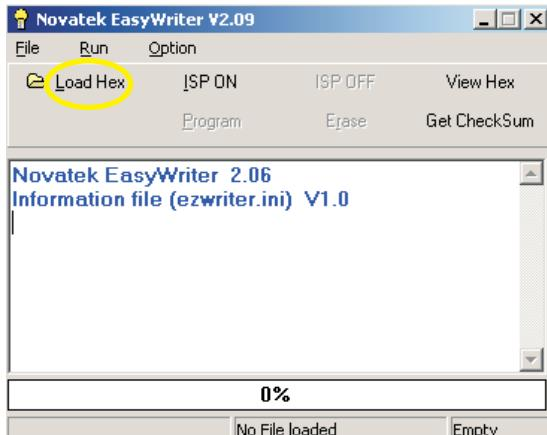
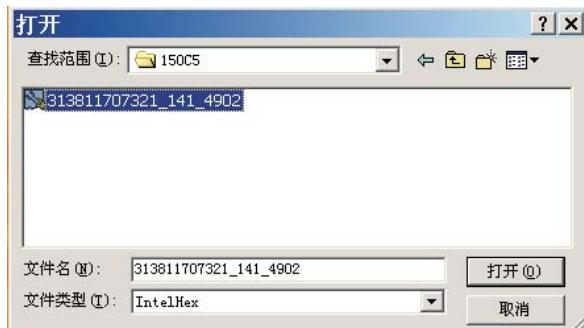

Fig. 8
Fig. 9
- Press the "Load hex" button then select the 313811707321_141_4902 As shown in Fig. 8 and Fig. 9.